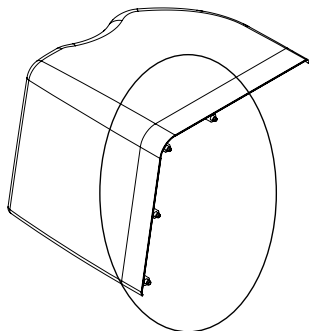
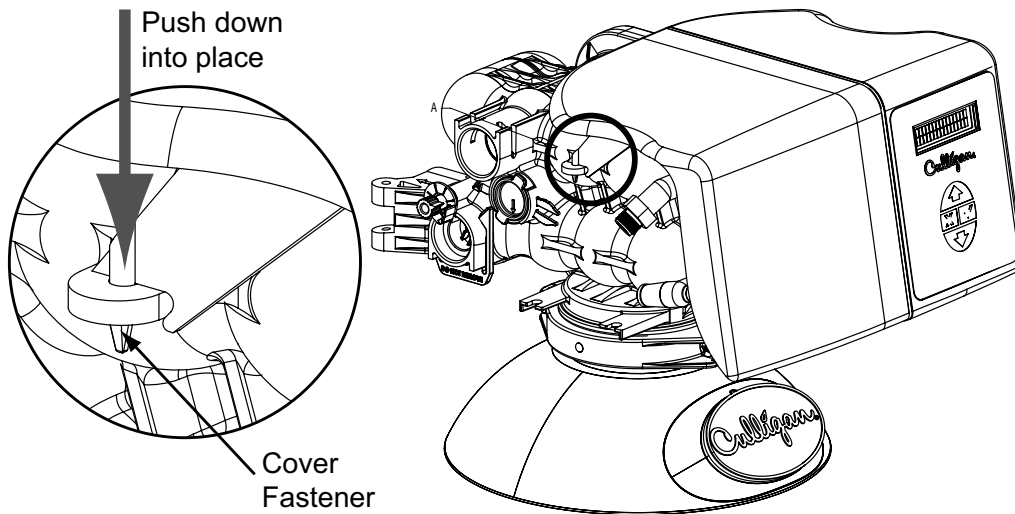

Figure 10. Cover fastener clip.
Figure 12. Reattaching the cover fastener.
Once the drain and brine line is connected re-attach the cover. Refer to the below instructions and Figure 10 through Figure 12.
1. Insert the two pins on the top of the cover into the two holes on top of the frame; the cover should be slightly angled. See Figure 10.
3. Attach the cover fastener onto the control valve. See Figure 12.